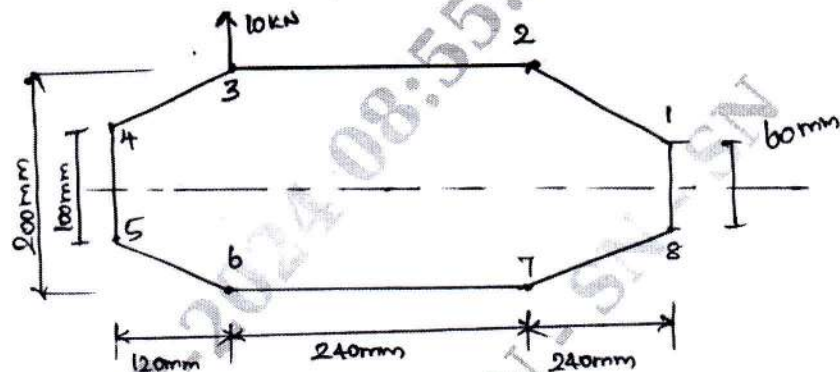

Fig. Q8
- 8 The thin-walled single cell boom shown in Fig. Q8 has been idealized into a combination of direct stress carrying booms and shear stress only carrying walls. If the section supports a vertical shear load of 10 kN, acting in a vertical plane through boom 3 and 6, calculate the distribution of shear flow around the section.